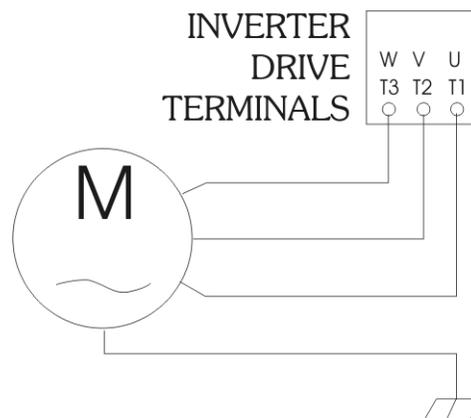

Figure 4.20: Inverter Drive to Motor Detail
7. For testing, select program 30 by pressing key 3 and key 0 on the keypad. Then press ENTER followed by the START key. Run the complete program, checking operation of water inlet valves, drain, and extract functions. Program 30 is a test program that goes through most machine functions. Please note that the Spin 99 routine is **designed to fail balance**. Simply advance the program to the Spin 3 cycle after balance fails (use the appropriately named ADVANCE key). Refer to the EL6 Stock Program Listing that came with the machine for further details on the test program.
8. Cylinder rotation must be counter-clockwise in the extract step. If rotation is not correct, disconnect the power to the machine. A qualified technician must reverse any two leads between the AC drive and the motor. See figure 4.20 on page 40.